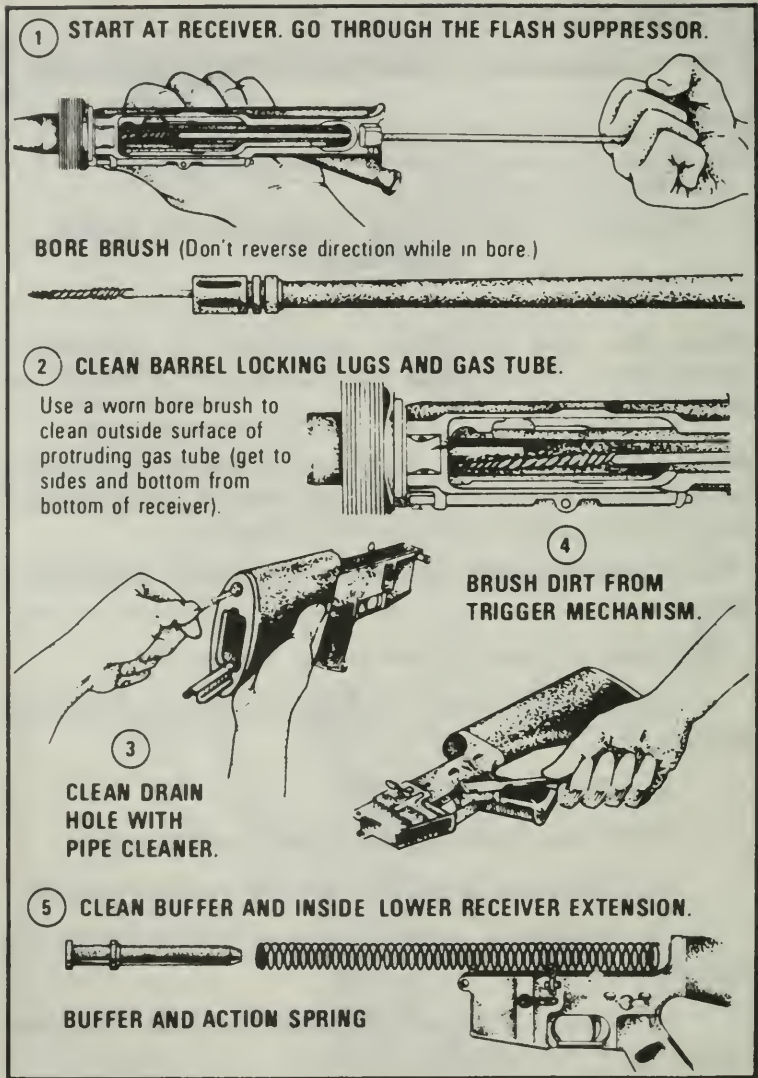

Figure 68. Cleaning the receivers.
- a. Clean the upper and lower receiver group (Figure 68).